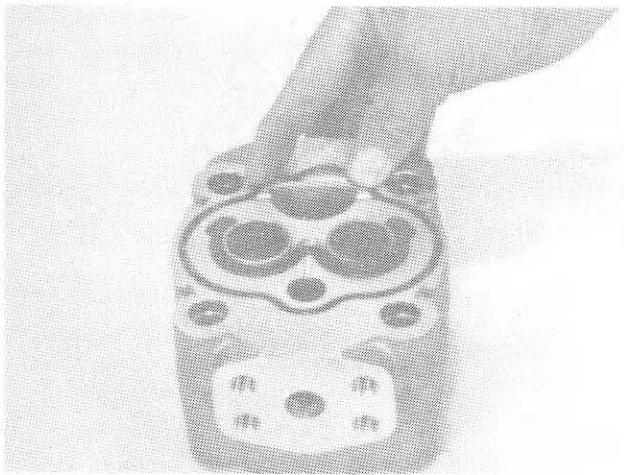

FIG. 28
38. After you have properly identified the side of the bearing plate described in step 37, lay the plate on the workbench with that side up. Install bearing plate o-ring (10), pressure balance o-ring (9), and back-up strip (8). Use clean heavy grease to hold the parts in position. (Fig. 28)